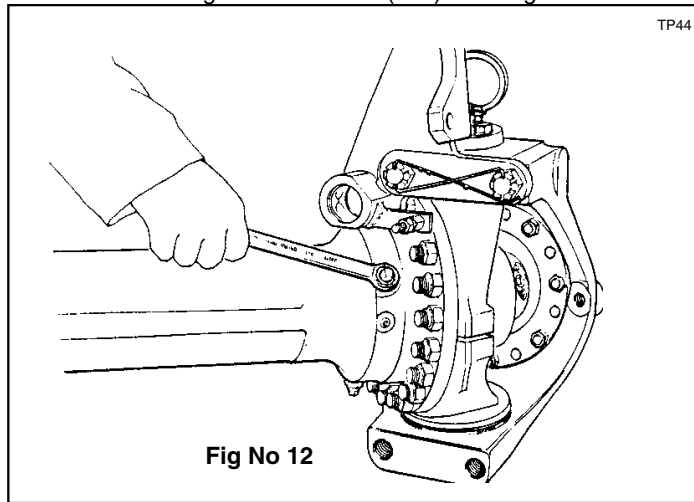

Fig No 12
- 12.4 Remove U.J. fork oil seal housing lockscrew nuts (115). See fig no.12.